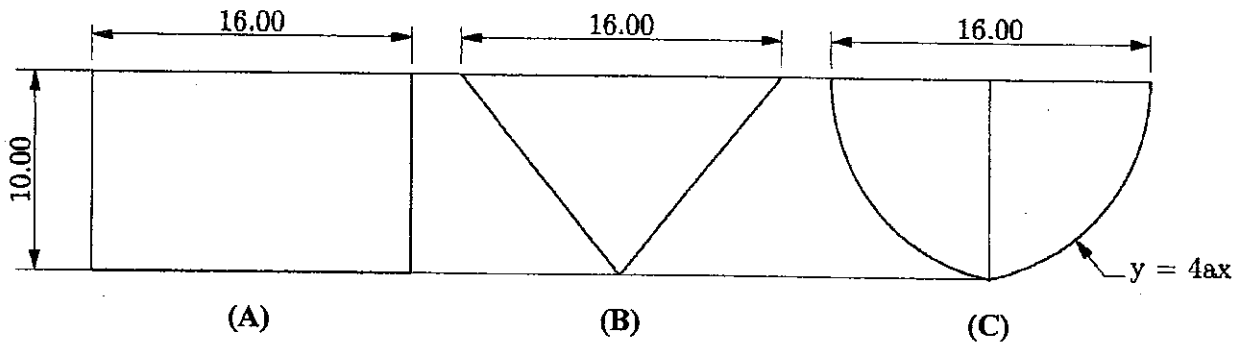

Figure Q3-1: Midship sections
- Q3. (a) Consider the three midship sections given with Figure Q3-1. The hulls are made by extruding the midship section straight for 50m.